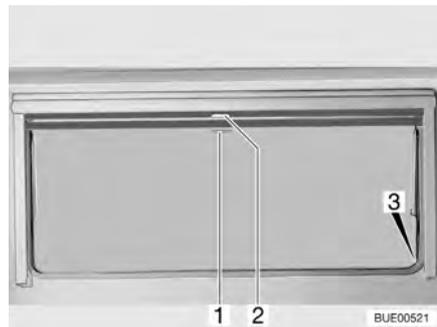

Fig. 60 Hinged window
- Pull blind at the handle (Fig. 60,2) downwards. If the blind is to be completely closed, it is suspended into the locking devices (Fig. 60,3) situated on both sides of the window frame.
- If the blind is completely closed: Press handle (Fig. 60,2) downwards and, at the same time, tilt it slightly inward. The blind can be taken out of the locking devices situated on both sides of the window frame.
- If the blind is in an intermediate position: Pull the handle (Fig. 60,2) slightly downwards until the locking device releases.
- Pull insect screen at the handle (Fig. 60,1) down and hang it into the locking devices (Fig. 60,3) situated on both sides of the window frame.
- Press handle (Fig. 60,1) downwards and, at the same time, tilt it slightly inward. The insect screen can be taken out of the locking devices situated on both sides of the window frame.